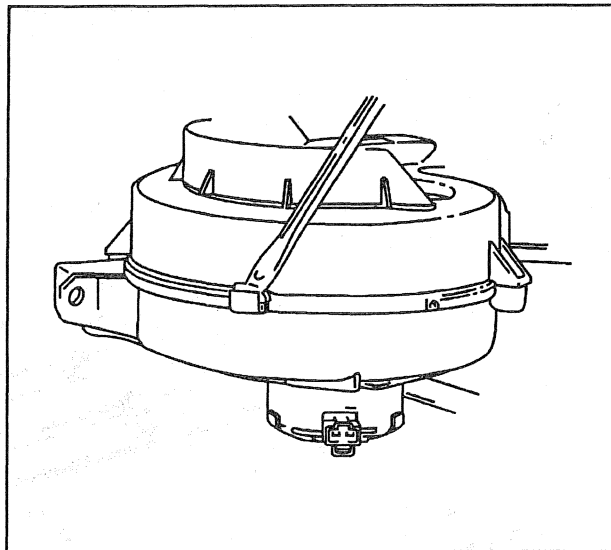

Figure 56—Removing Case Clip
5. Rear heater hoses from auxiliary heater core (32), if equipped. Refer to SECTION 1A.
6. Auxiliary refrigerant hoses (20 and 21) from auxiliary evaporator (26). Refer to "Compressor and Condenser Hose Assembly."
- A. Remove case clip (figure 56).
10. Evaporator core (26).
1. Evaporator core (26). Refer to "Refrigerant Oil Distribution," if replacing evaporator.
- Case clip (figure 56).
5. Auxiliary refrigerant hoses (20 and 21) to auxiliary evaporator (26). Refer to "Compressor and Condenser Hose Assembly."
6. Rear heater hoses to auxiliary heater core (32), if equipped. Refer to SECTION 1A.